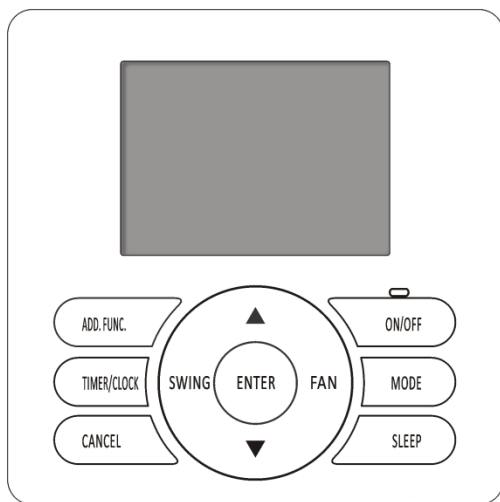
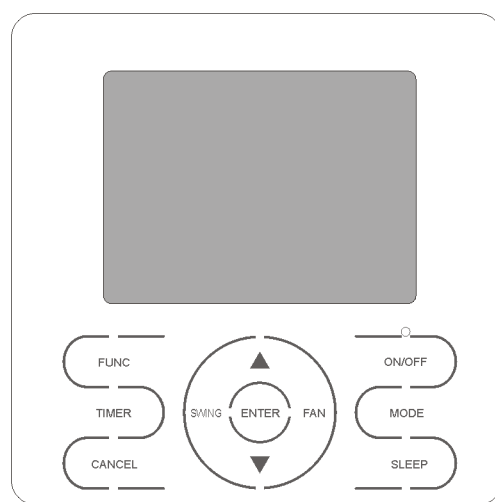

Fig.2 YXE-C01U/ YXE-C02U(E)
Fig.3 YXE-D01U(E)
Fig.2 short wiring
Fig.3 output line
Pins of the OUT INPUT CN16 socket shown in the electrical wiring diagram of Fig 1 are tacitly approved to be in short circuit state under the factory state (an external short circuit plug shown as Figure 2).
1) When using the room card control, the user cuts off the short wire shown in Figure 2 and connects the red lines to
2) When using the fire protection , the user cuts off the short wire shown in Figure 2 and connects the White lines to the control switch (supplied by user), and the connecting wire should be 22AWG or above specification. The switch is closed under normal conditions and off under abnormal conditions.
3) When using the ON/OFF function, the user cuts off the short wire shown in Figure 2 and connects the White lines to the ON/OFF control switch (supplied by user), and the connecting wire should be 22AWG or above specification. In normal conditions, the machine starts once the switch is closed and the machine shuts down once the switch is off.
Fig.3 main control board
3 pins of the OUT INPUT CN16 socket shown in the electrical wiring diagram of Figure 1 are tacitly approved to be in short circuit state under the factory state (an external short circuit plug shown as Figure 2), and the OUT INPUT CN16 socket of main control board is shown as Figure 3.
- 4) When using the room card control or fire protection , the user cuts off the short wire shown in Figure 2 and connects the red line and the black line to the control switch (supplied by user), and the connecting wire should be 22AWG or above specification. The switch is closed under normal conditions and off under abnormal conditions.
- 5) When using the ON/OFF function, the user cuts off the short wire shown in Figure 2 and connects the black line and the white line to the ON/OFF control switch (supplied by user), and the connecting wire should be 22AWG or above specification. In normal conditions, the machine starts once the switch is closed and the machine shuts down once the switch is off.